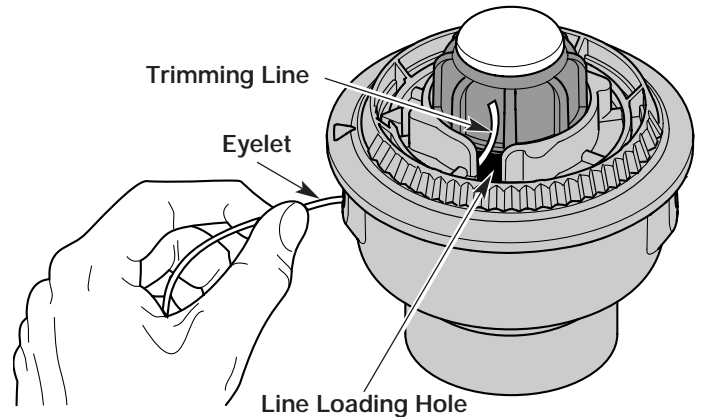
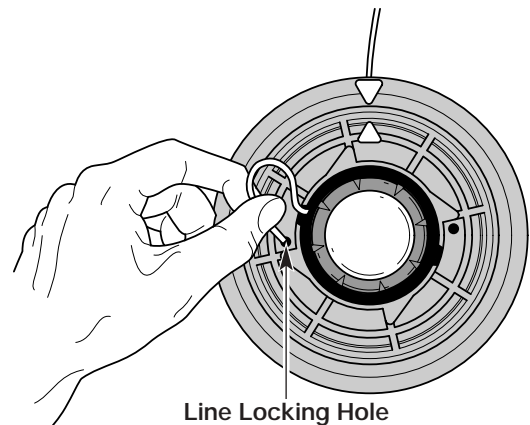

Fig. 17
Fig. 18
3. Pull old line out of the line loading and line locking holes (Figs. 17 and 18).
4. Insert a piece of trimming line into one of the two eyelets in the outer spool. Push it up through the line loading hole in the inner reel (Fig. 17). Do not bend the line when inserting it into the eyelet.
5. Insert the line into the locking hole (Fig. 17). Do not push the line more than 1/2 inch (12.7 mm) into the line locking hole. When inserted correctly the line will form a small loop (Fig. 18).